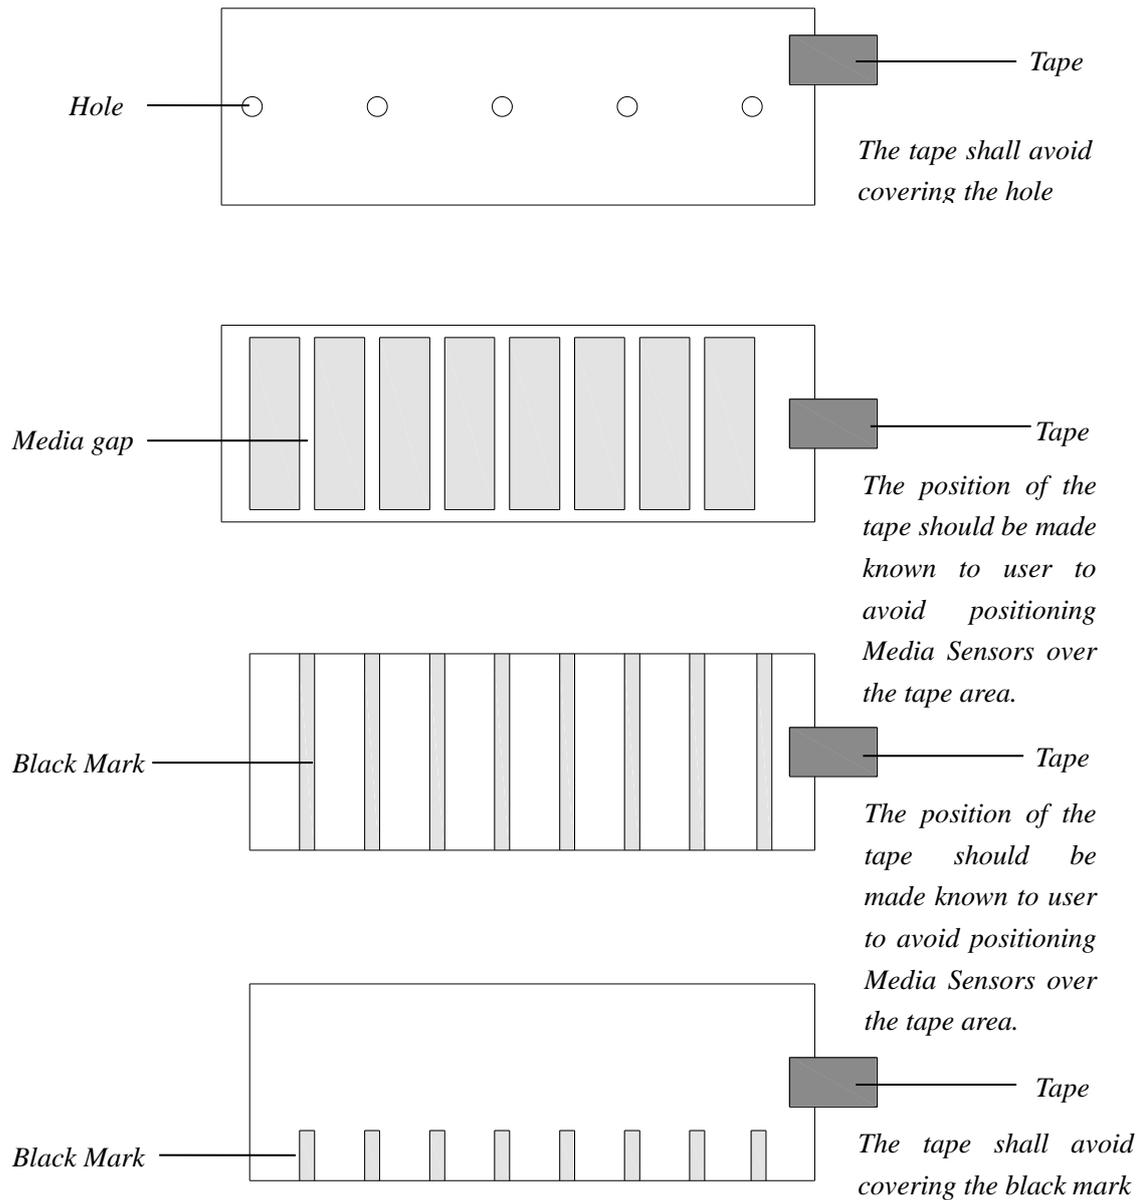

Figure 2-16 End-fixing Tape Position
- When roll media is produced, the media end would be fixed on the media core by duct tape or scotch tape. If your printer cannot detect Media Out signal well, please refer to Figure 2-16 to check the position of the tape.